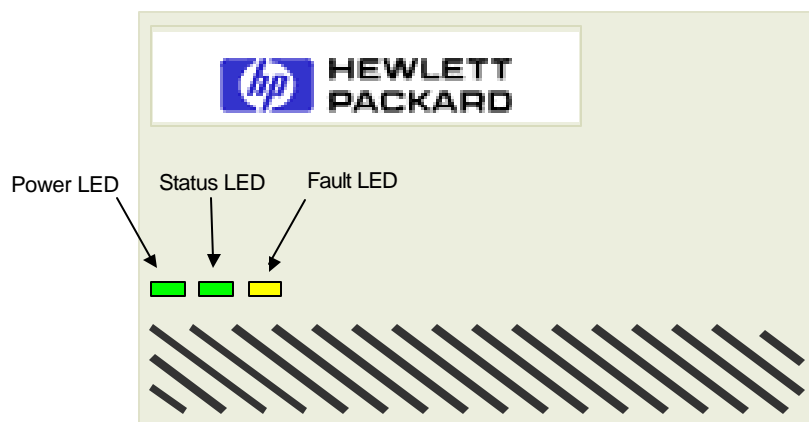

Figure 2-3. SCSI-FC Router Front Panel
1. Are the SCSI-FC Router's status LED (green) and power LED (green) solid-on and the fault LED (yellow) is off? (For front and rear LED locations, see Figures 2-3 and 2-4, respectively).